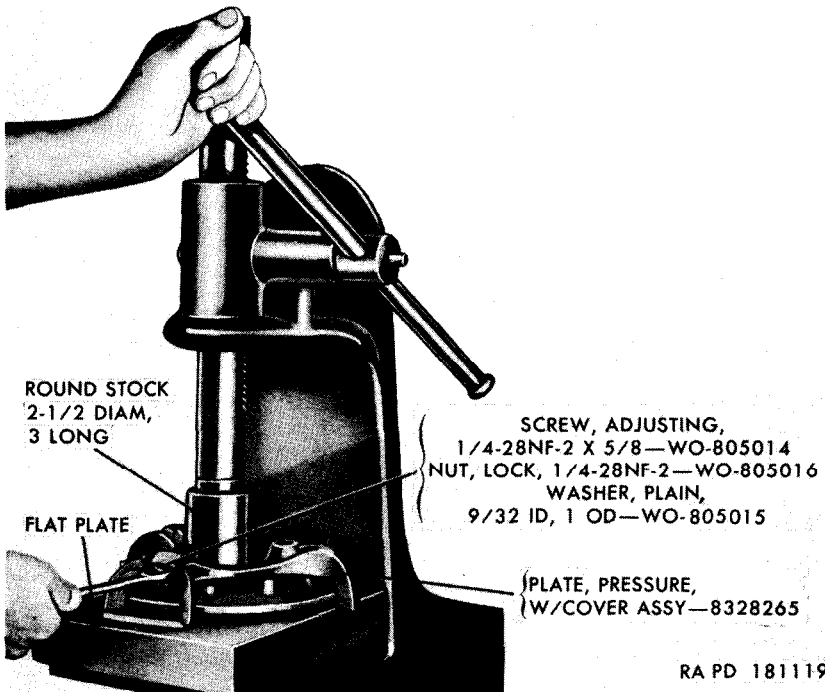

Figure 108. Depressing pressure plate release levers.
a. Install the pressure plate with/cover assembly (fig. 108) in an arbor press on a flat plate large enough to support the assembly at all points. Position a length of round stock approximately 2 $\frac{1}{2}$ inches in diameter on the pressure plate release levers so that it bears on all three levers. Remove the clips from the ends of the release levers.
c. Remove the adjusting screw, lock nut, and plain washer (fig. 108) from the pressure plate. Hold a steady pressure on the levers until all three cap screws are removed. Release the applied pressure slowly, and remove the pressure plate with/cover assembly from the arbor press when the springs have expanded to their full free length.
a. Set the pressure plate (D) on the flat bed of the arbor press (fig. 108) and position the pressure plate cover (E) over the plate. Lift the release levers so that they stand straight up.
b. Install the three pressure plate spring cups (F) in the cover with the indentations in the cups facing the center of the cover.
c. Install a pressure spring (G) and an auxiliary pressure spring (H) (auxiliary pressure spring centered in the pressure spring) in each pressure plate spring cup (F). Install an auxiliary pressure spring retainer (M) on top of each auxiliary pressure spring.
d. Drop the levers over the ends of the springs, and center a piece of 2½-inch diameter, 3-inch long round stock on the levers (fig. 108). Exert a moderate pressure on the levers with the arbor press and secure the pressure plate cover to the pressure plate with a ⅝ ID, 1 OD, plain washer (Q); a ¼-28NF-2 x ⅝ adjusting screw (N); and a ¼-28NF-2 lock nut (P) installed under each of the pressure release levers (fig. 108).
e. Install the pressure plate release lever clips (L) by engaging the slotted underside of the clips under the heads of the adjusting screws (N), and then snapping the clips into place over the ends of the pressure plate release levers (K).